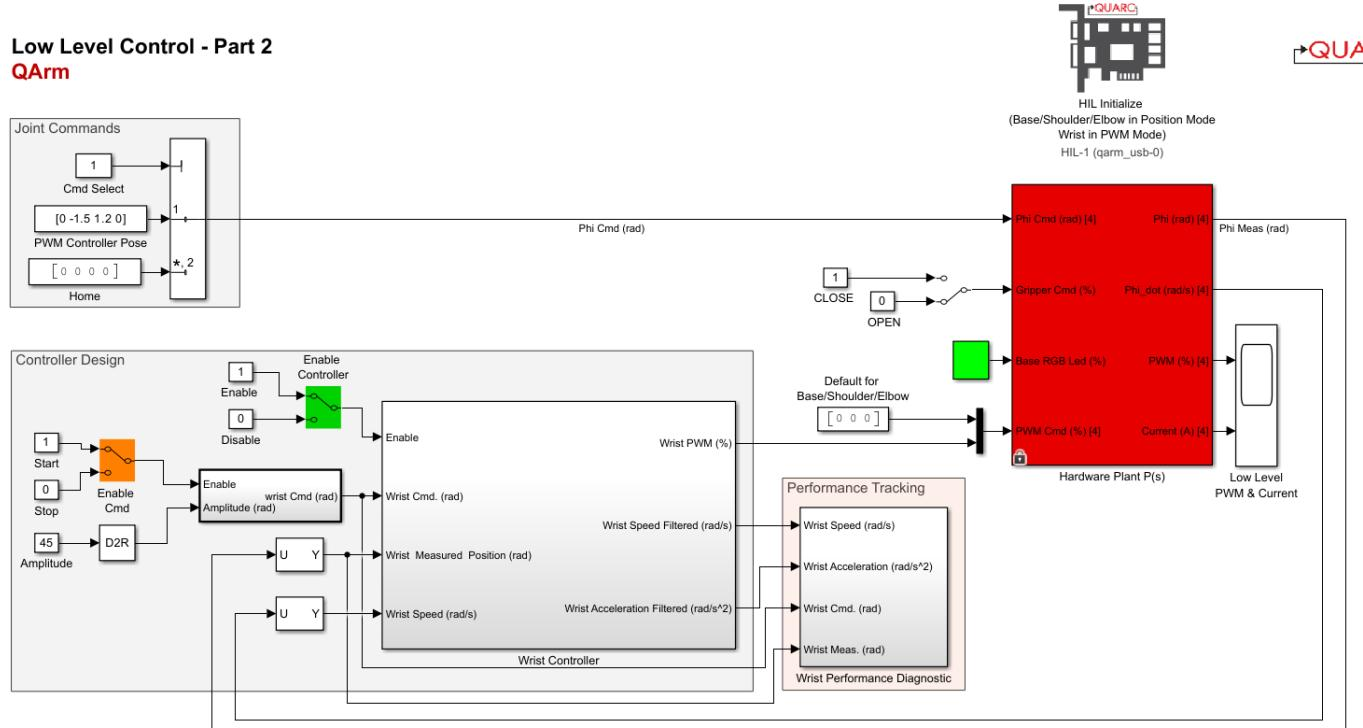

Figure 4: Simulink model that controls the QArm in hybrid Position/PWM Mode.
- Open the Simulink model LowLevelControlWristPWM.slx (Figure 4). In this part of the lab you will tune the proportional and derivative (PD) terms of the Wrist controller to examine their effect on performance characteristics mentioned in the Concept Review.